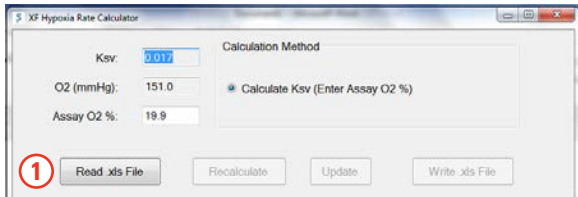

Figure 4. Read .xls File command.
2. Click **Read .xls File** (1, Figure 4).